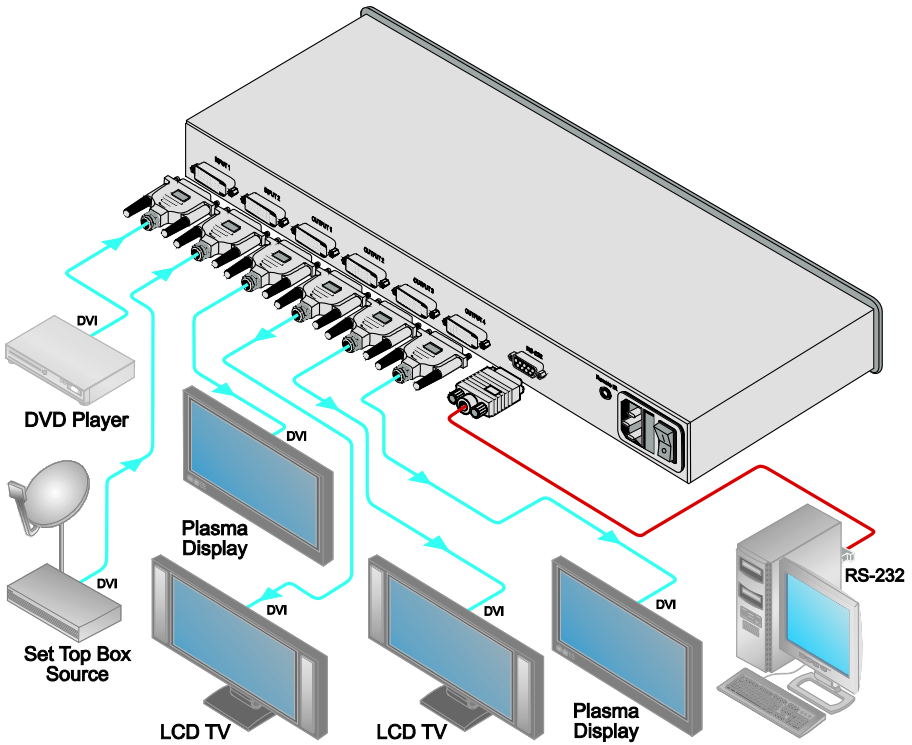

Figure 2: Connecting a VM-24HDCP 2 Input 1:4 DVI Distributor
To connect the **VM-24HDCP**, as illustrated in the example in Figure 2, do the following¹:
4. Connect the power cord to the mains electricity (not shown in Figure 2).